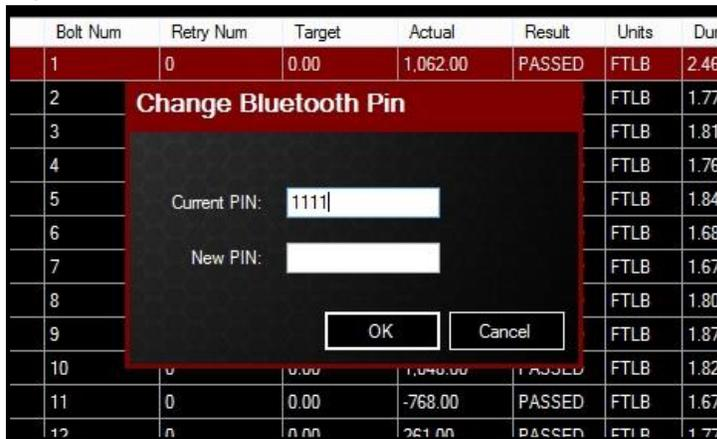

Figure 5.8-2: Changing the Bluetooth Pin
3. A dialog box will be displayed asking for the old Pin and a new Pin (Figure 5.8-2).